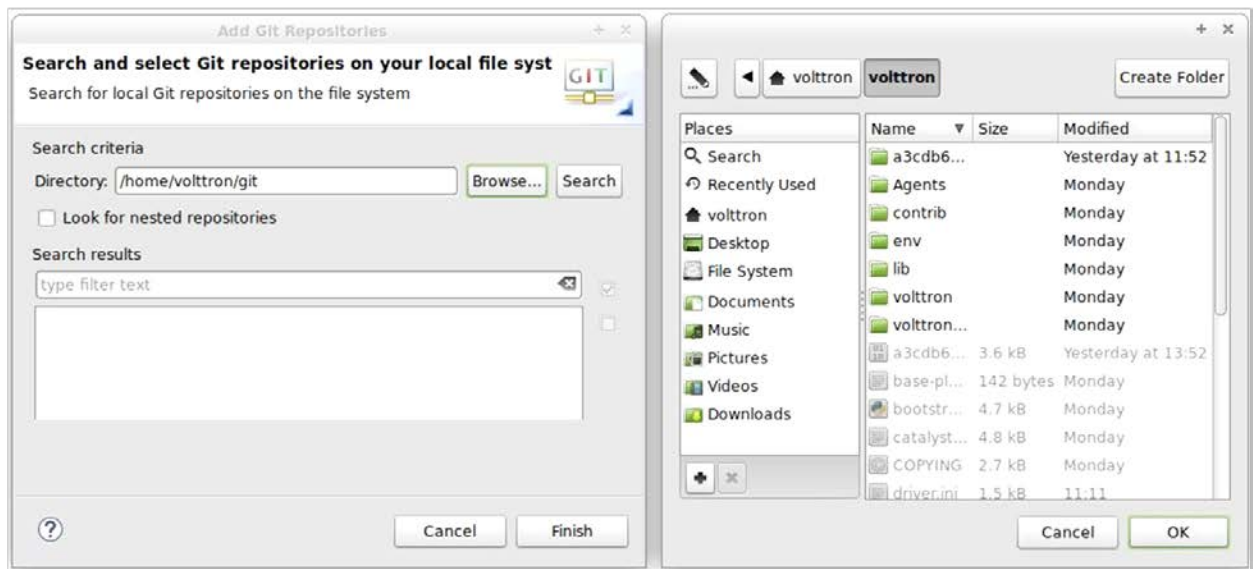

Figure 58: Checking Out VOLTRON with Eclipse from Local Source (continued)
5. Select Browse -> navigate to the top-level volttron directory and select OK (Figure 58)